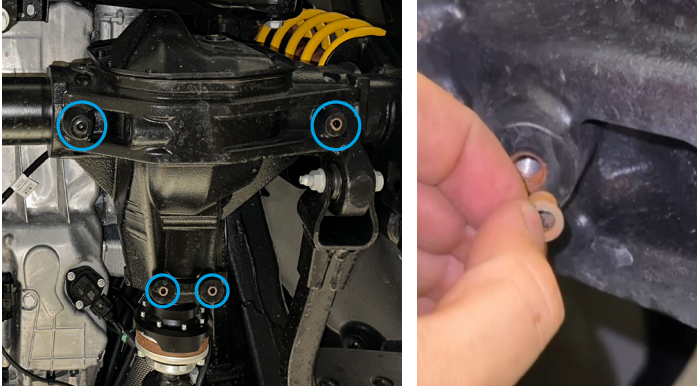

Fig. 1
1. Remove and discard the plugs from the factory threaded holes as shown in Fig.1.